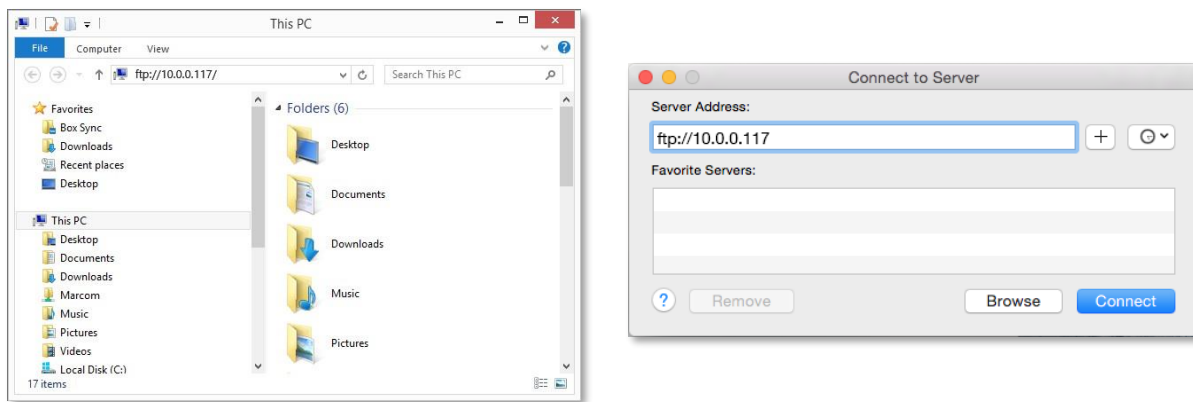

Figure 53: Enter the Digital Analyzer's IP address in File Explorer (left) or Finder (right).
1. On a Windows computer, open Windows Explorer or File Explorer. On a Macintosh computer, open Finder and select **Connect to Server...** from the Go drop-down menu. Once the file manager is open, type **FTP://(IP_address_here)** as shown in **Figure 53**.